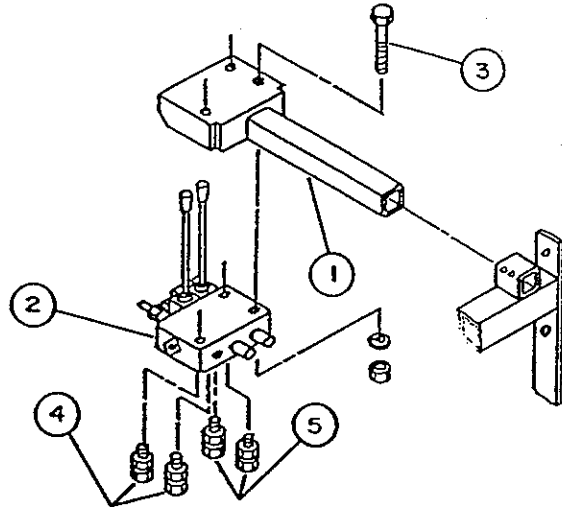

FIGURE 5
- a) Install valve (fig.5, item 2) on underside of valve support bracket (fig.5, item 1) using a $5/16"$ x $2\ 1/4"$ bolt (fig.5, item 3), lockwashers and nuts. Tighten securely.
- d) Install a $3/4"$ ORB x $1/2"$ NPT swivel adapter (not included)(fig.5, item 4) in each of the ball detent spool ports.
- f) Install a $3/4"$ ORB x $3/8"$ NPT swivel adapter (not included)(fig.5, item 5) in each of the remaining spool ports on valve.